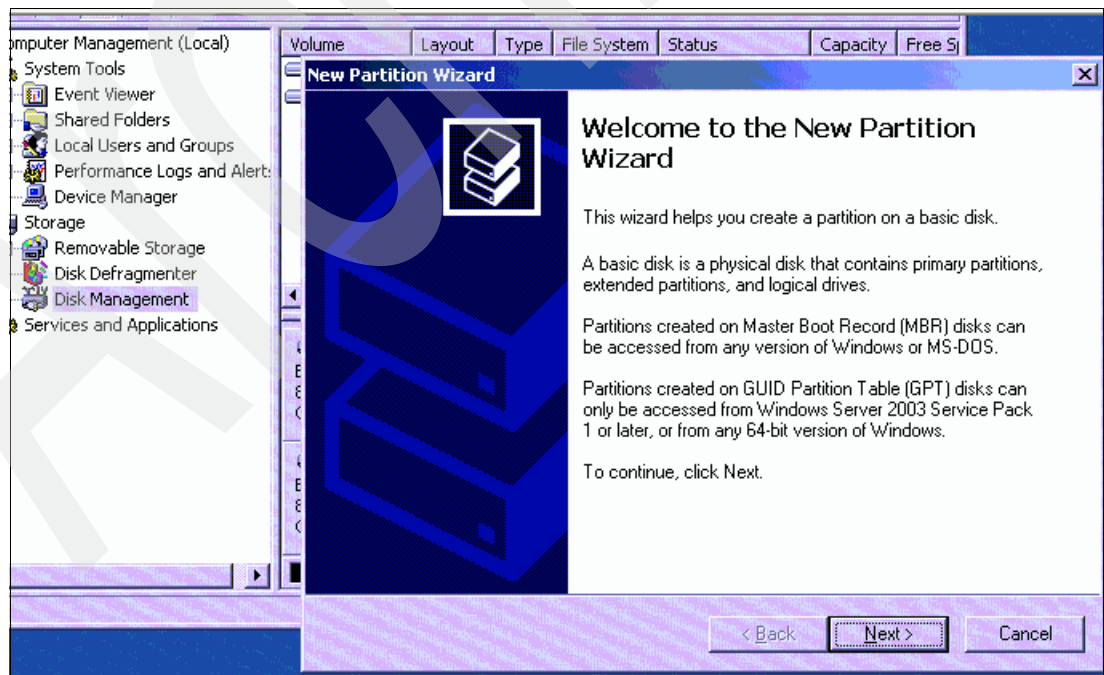

Figure 4-73 New partition wizard to create a basic disk
- vi. We make a Basic disk with one partition. Selecting the New Partition starts a wizard (Figure 4-73).